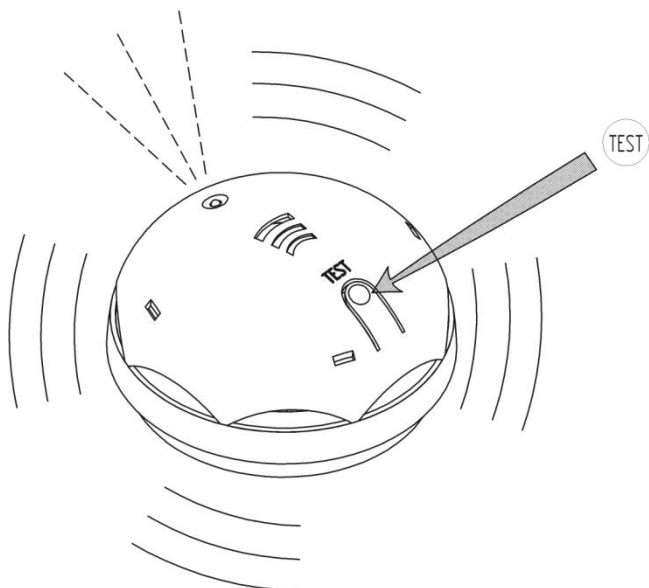

Fig. 3.
5.4.2 Press the TEST button and hold it down for 3-5 seconds. An optical indicator will flash, and an intermittent audible signal will be generated. The audible and light signals will stop after releasing the button (see. Fig. 3).